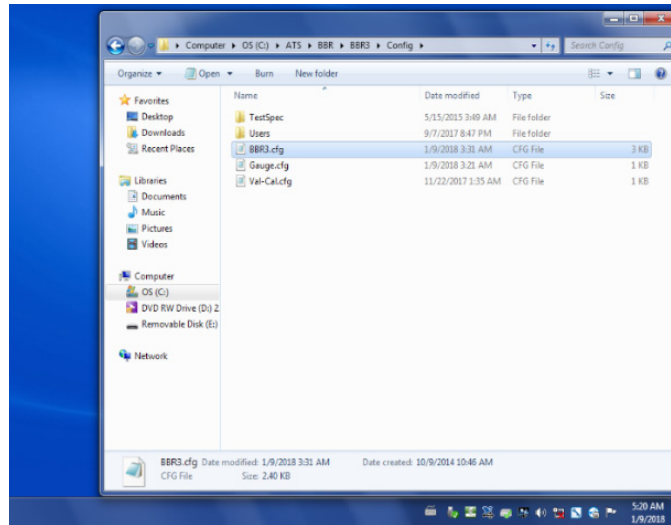

Figure D.11 - Pathway to the File
- The Serial Number information for the BBR is stored in the BBR2S.cfg file. , which is located inside of the config. directory in the BBR2S program file directory in the ATS folder on the computer's C: drive. Figure D.11 shows the pathway to this file. The file can be opened for editing or viewing using the Notepad application in Windows®.